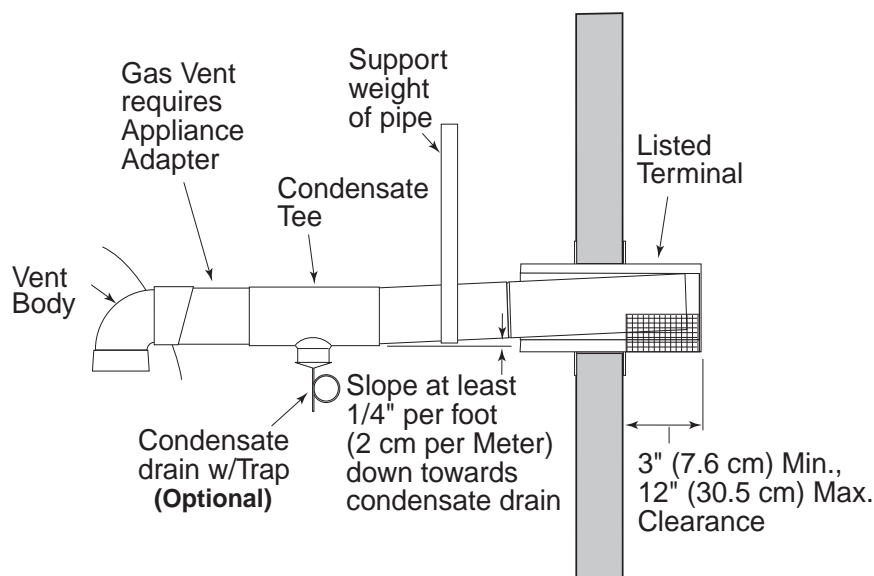

Figure 25.
- at least 3" and at most 12" out from the wall (see Figure 25 on page 33), following the vent manufacturer's instructions